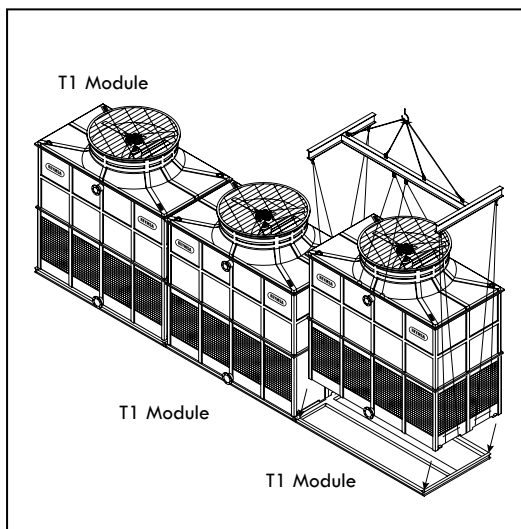

Figure A-102: S-Orientation - Last T1 module lifting and installation (RTGM-B-S & RTGMTC-C2-S)
- C. Lift and install the last module. This module should have 3 air inlet sides (two large sides and one short side). See Figure A-102 for reference.